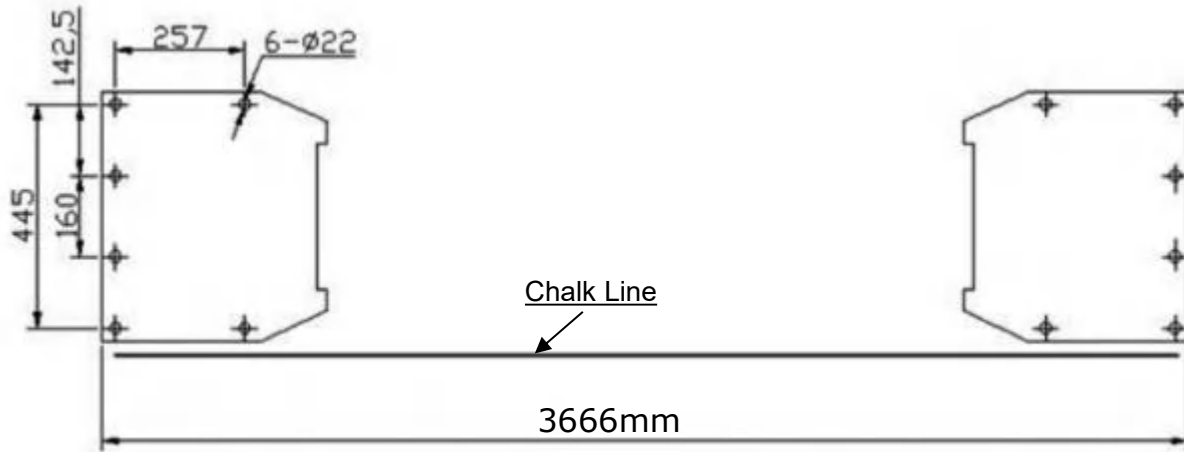

Fig. 6
B. Use a carpenter' s chalk line to establish installation layout of baseplate (See Fig. 6).